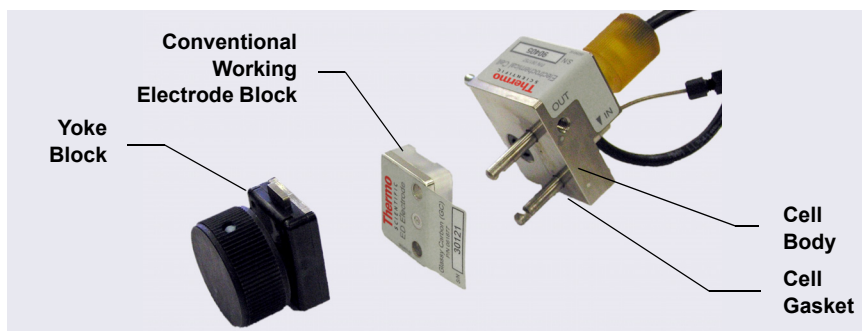

Figure 10-61. ED Cell Components
- Carefully separate the parts (see Figure 10-61).